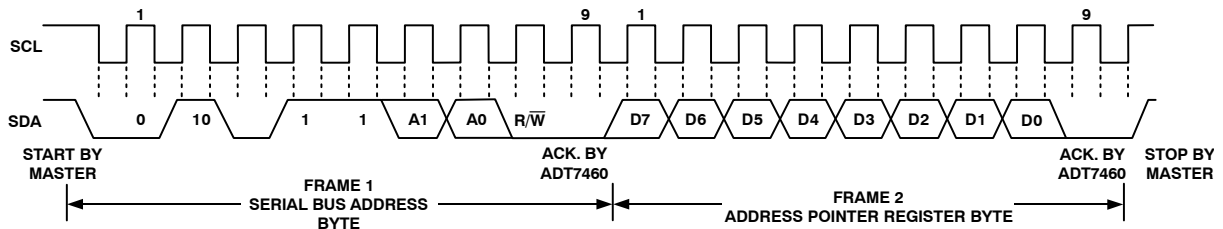

Figure 18. Writing to the Address Pointer Register Only
- ♦ If the ADT7460's address pointer register value is unknown or not the desired value, it is first necessary to set it to the correct value before data can be read from the desired data register. This is done by performing a write to the ADT7460 as before, but only the data byte containing the register address is sent because data is not to be written to the register. This is shown in Figure 18.
- ♦ If the address pointer register is known to be already at the desired address, data can be read from the corresponding data register without first writing to the address pointer register, so Figure 18 can be omitted.